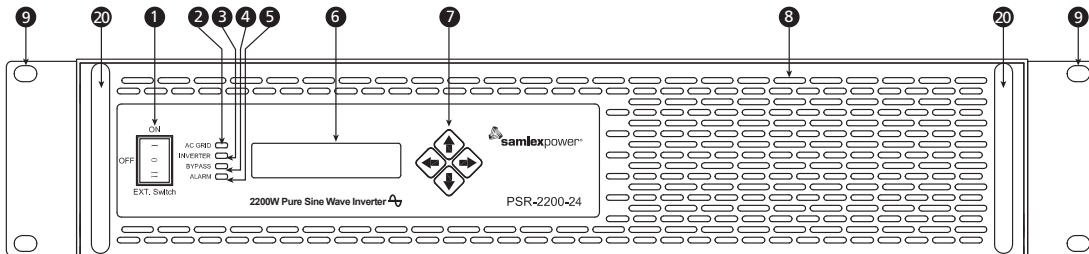
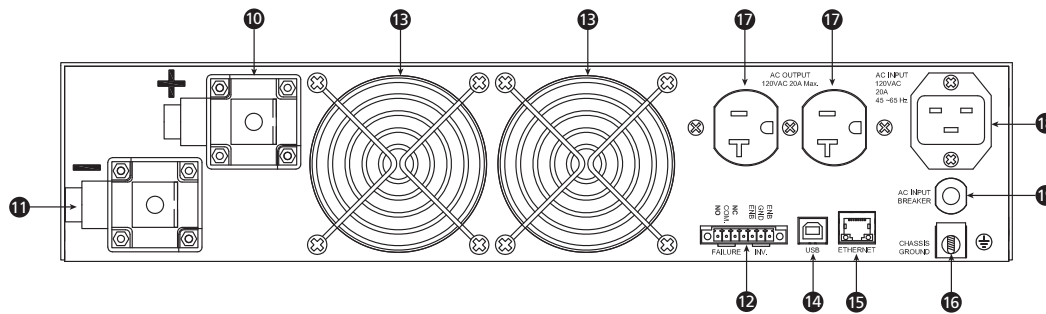

Fig 6.1 Front view and layout of Front Panel (With mounting brackets)
Fig 6.2 Rear view and layout of Rear Panel (Without mounting brackets)
Relays RL-1 [for Line (L) side] and RL-2 [for Neutral (N) side] are in de-energized condition if AC GRID input is NOT available. These 2 relays will be energized as soon as AC GRID is available [irrespective of the position of the Front Panel On/ Off Rocker Switch (1, Fig 6.1)]. 12VDC power for energization of these 2 relays is supplied by internal Power Supply that is fed from the AC GRID input. As these relays will be powered by the AC GRID input, their energization will not drain any DC power from the 24V/ 48V battery system used to power the Inverter Section.
If AC GRID input is being fed to the unit through AC Inlet (18, Fig 6.2) and has been switched ON, it will be bypassed to the AC outlets (17, Fig 6.2) even if the Inverter Section has been switched OFF either through the 3-Position Rocker Switch (1, Fig 6.1) or through the Wired Remote On/Off Control (Section 5.7). See explanation below:
As soon as AC GRID input is available, Relays RL-1 and RL-2 will get energized (even if the Inverter Section has been switched OFF either through the 3-Position Rocker Switch or through the Wired Remote On/Off Control). Normally Open (NO) contact pairs will be closed. As the Inverter section is OFF / not supplying the load, the Normally Closed (NC) contacts of Relays RL-4 and RL-5 will bypass the AC GRID input voltage to the AC Outlets (17, Fig 6.2).
When the unit is used as an independent Inverter with no input connection to the AC GRID, it will be considered as a "Separately Derived System" as per Article 250 of the National Electrical Code (NEC). As per this Code, the Neutral Conductor of the Inverter output has to be bonded to its Equipment Ground (metal chassis of the unit). The Equipment Ground (metal chassis of the unit) has to be connected to the Earth Ground through the Grounding Terminal (16, Fig 6.2) so that in case of a Ground fault, the Inverter will be able activate its over-current shut down protection. However, if the unit is being used as a UPS and is fed from AC GRID Supply Panel, it will be considered "NOT Separately Derived System" but as a "downstream load" as far as the AC GRID Supply Panel is concerned. The AC GRID Supply Panel will have its Neutral bonded to the Earth Ground (through the Ground Rod). As per NEC, it is not permitted to bond the Neutral and Equipment Ground (metal chassis) of any down-stream load being fed from the AC GRID Supply Panel. To meet the above requirements, Relay RL-3 is energized only when the Inverter is supplying power i.e. when Transfer Relays RL-4 and RL-5 are energized (See Section 5.4.1).
The Inverter Section can be switched ON and OFF using wired remote ON / OFF control. For this, terminals ENB, GND and  $\overline{\text{ENB}}$  have been provided in the 7-Way Terminal Block at the rear of the unit (12, Fig 6.2).
**IMPORTANT NOTE:** For activation of wired remote ON / OFF function, the 3-Position Rocker Switch on the Front Panel (1, Fig 6.1) has to be pressed down towards position marked "EXT. Switch".
Layouts of the Front and Back Panels are shown in Figs 6.1 and 6.2 below:
### LEGEND FOR FIGS 6.1 AND 6.2